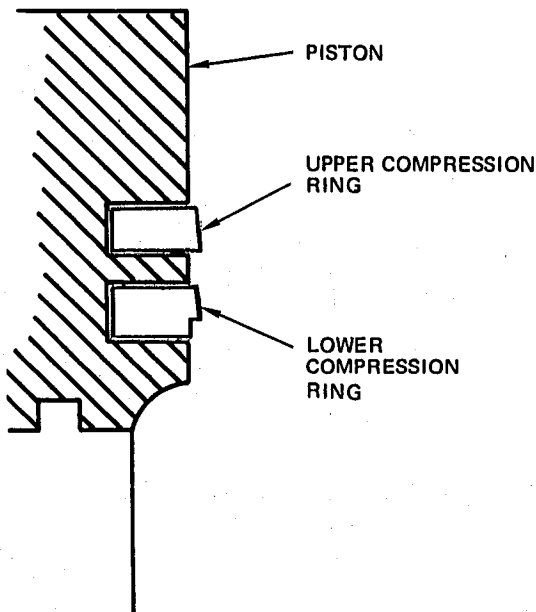

Figure 30
3. Replace the piston rings. Note in Figure 30 that a set of rings includes an upper and lower ring. Each Ring is marked "TOP" OR with an "O" for proper positioning on the piston. These marks must face toward the top of the piston.